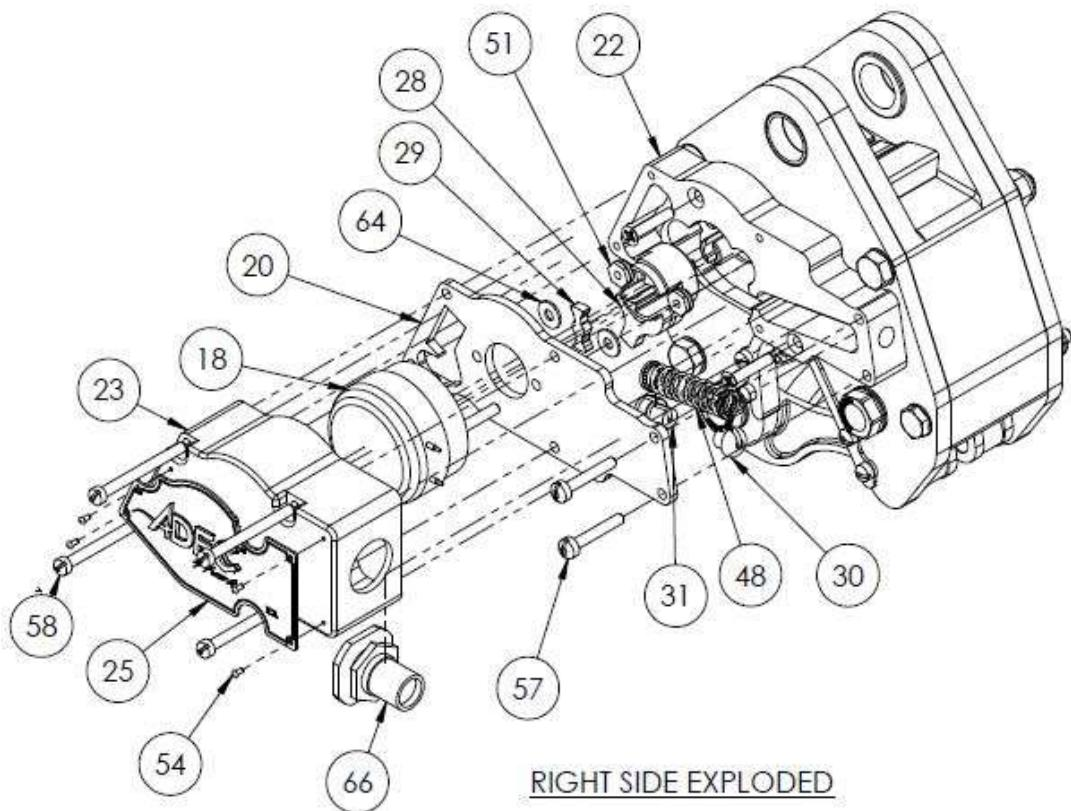

Figure 4.2: Model 350 ADEC™ Right Side Exploded View (Externals)
- Loosen screws (items 43, 57, and 58) to remove release mechanism components from cargo hook. See figures 4.2 and 4.3 for exploded views of each side of the cargo hook. Upon removal of components shown in figures 4.2 and 4.3:
- Install LH and RH release mechanism components as per Figures 4.2 and 4.3.